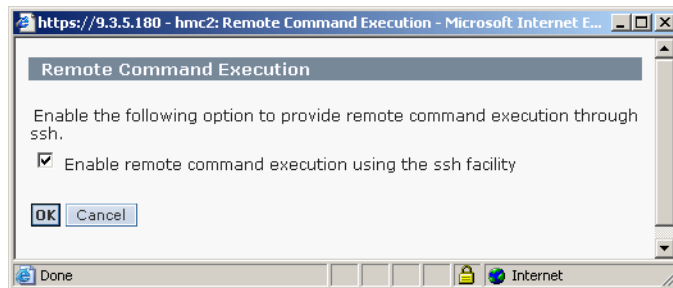

Figure 17-3 Remote command execution window
3. In the Remote Command Execution window, enable the check box to **Enable remote command execution using the ssh facility**, as shown in Figure 17-3. Click **OK**.